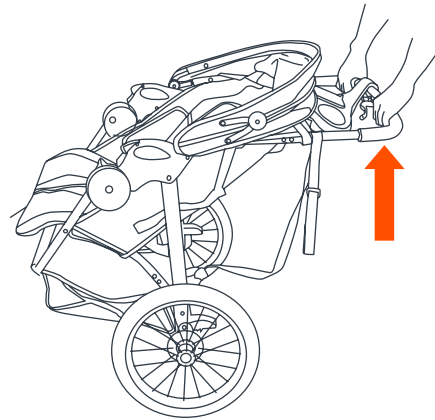

Fig. 19b
- Lift up on the stroller handle with both hands until the stroller frame is erected and locked in the open position (Fig. 19b). The stroller has spring-loaded latches on both sides of the frame. Test that both latches are fully engaged prior to placing your child in the stroller.